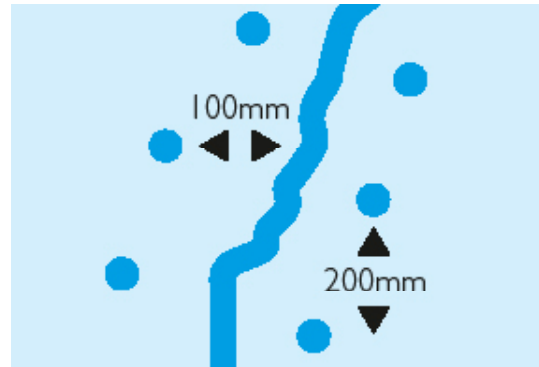

Figure 1: Drill hole spacing for packers
- 6 Drill holes should alternate on either side of the crack length, spaced at approximately 200mm along the length of the crack (see Figure 1).